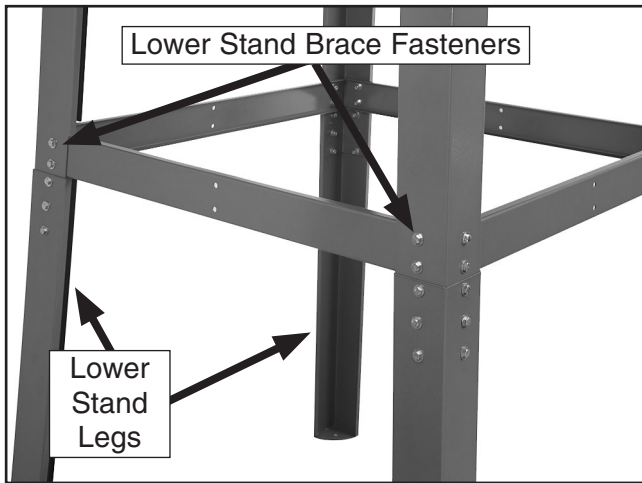

Figure 24. Lower stand legs attached to the upper stand assembly.
- To allow the mounting holes of the lower stand legs to align properly, slightly loosen the 16 fasteners that connect the lower stand braces to the upper stand legs (see **Figure 24**).